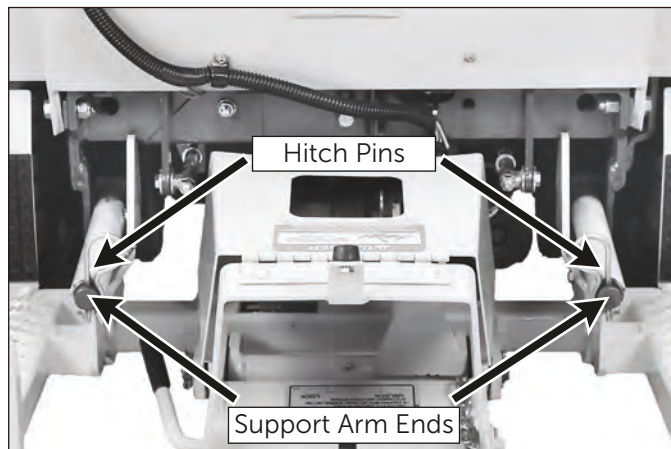

Figure 2.1
2. Lightly grease both support arms on the tractor. Refer to figure 2.1 for location of the support arms.
4. Install a hitch pin through the hole on the end of each support arm to lock the hitch in place (figure 2.1).